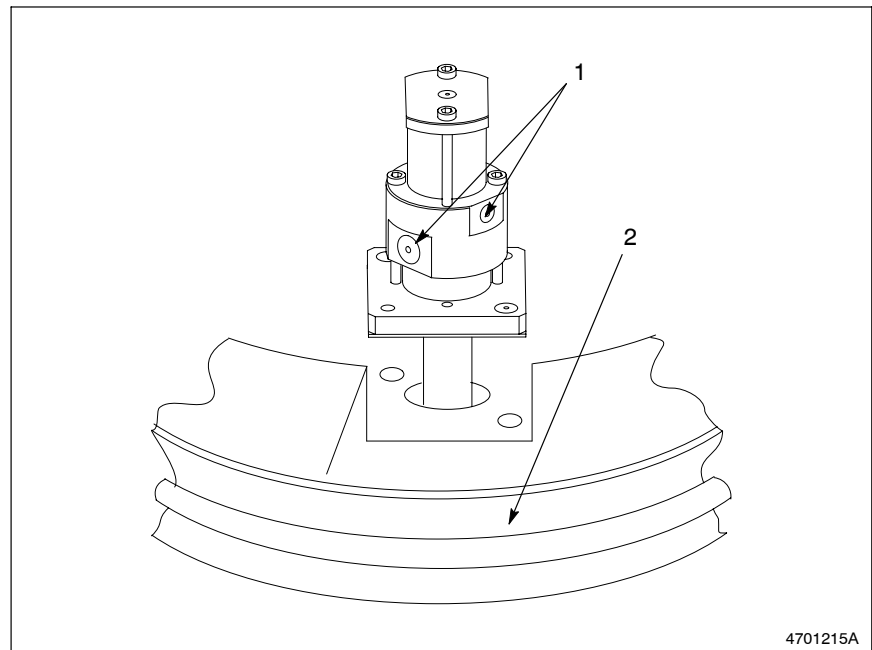

Fig. 7-13 Orientation of Blow Off Valve Air Ports
1. See Figure 7-13. Insert the valve as shown.